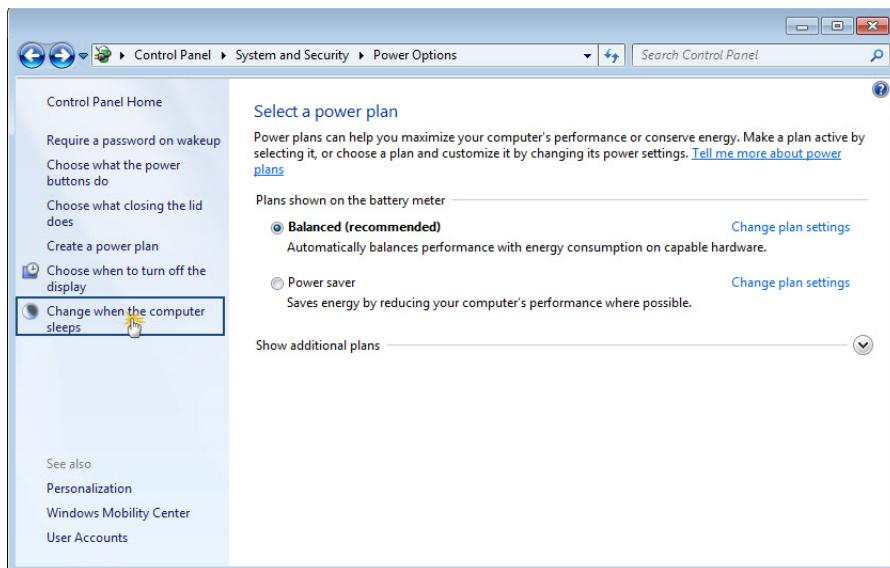

Figure 2-3. Deactivating sleep mode (B)
- 2 Click **Change when the computer sleeps** in the dialog box that appears (Figure 2-3).